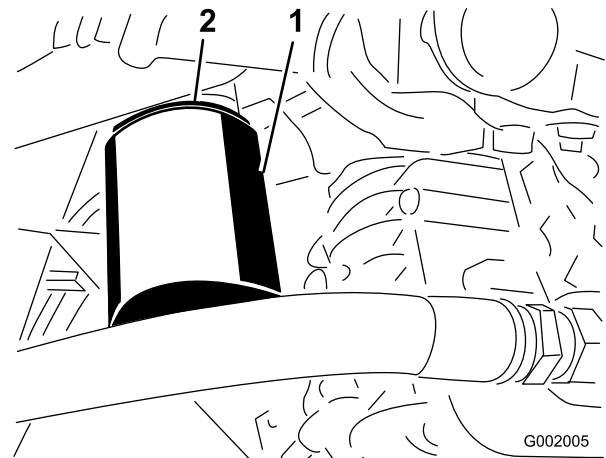

Figure 69
- Remove the filter (Figure 69).